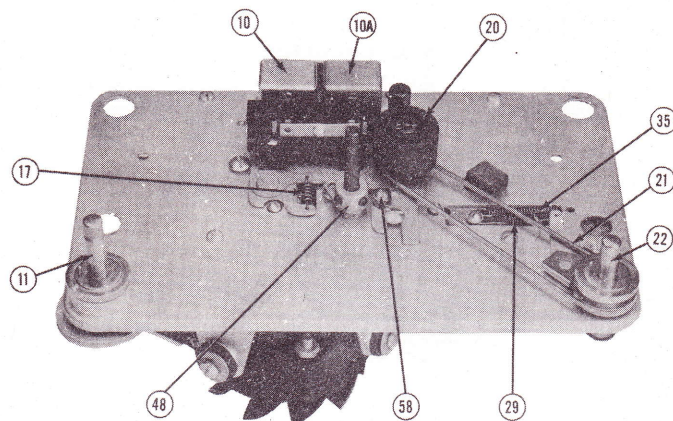

Figure 2
Set the pressure lever (16) so that it is vertical when the control knob is in the "Forward" or "Record-Playback" position. Also adjust the arm adjusting plate (58), Figure 2, so it will clear the pressure arm (16) by 1/64" when in this position. With normal adjustments, the tape guide (9) will move very slightly, or not at all, when the control is turned from the "Off" to the "Rewind" position.